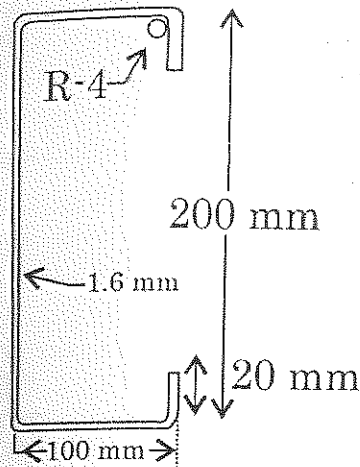

Figure 5
- (b) A channel section shown in Figure 5 is used as an axially loaded compression member having an effective length of 4.5m. If it is made of St-42-1079 steel [$F_y = 2400 \text{ kg/mm}^2$, $F = 1450 \text{ kg/mm}^2$]. Predict the allowable load on the column.